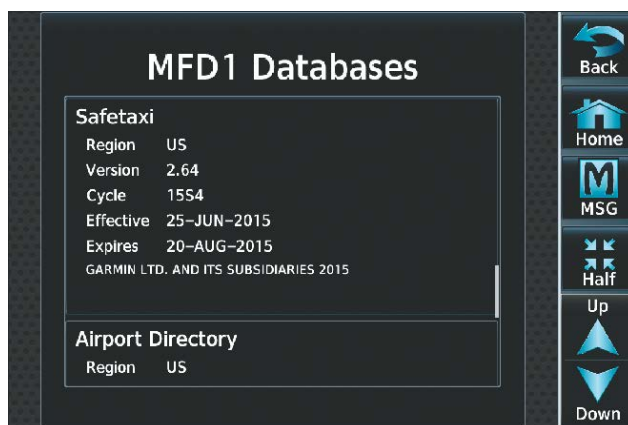

Figure 8-3 MFD SafeTaxi Database Information
- 4) Scroll to view the SafeTaxi database information, as shown in Figure 8-3.